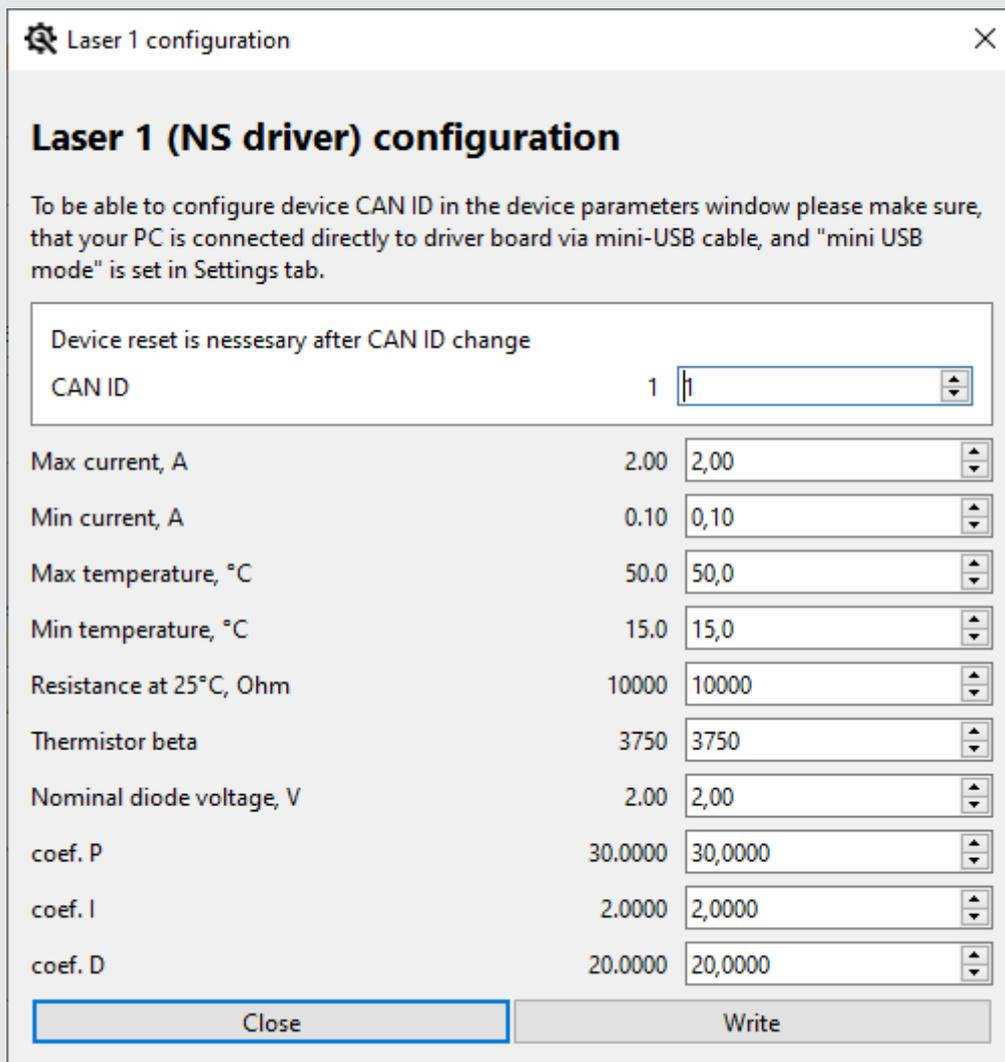

Figure 2: The laser diode setting menu
11. Click  icon located in the control panel’s upper right corner to enter the driver setting mode. The driver setting mode allows entering laser diode parameters and the permitted range of laser operating conditions (fig. 2).
The system configuration window (fig. 2) is accessed by pressing "Settings" in the navigation bar. In this window the user can set the number of channels, CAN network ID and the names for the connected drivers.
shown in Figure 2.